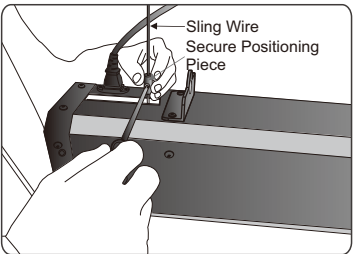

Figure 30
- a. Casing upper limitation uses the touching switch, consists of secure positioning piece system. (Refer to description).You just need to loose the screw on the position piece and then fasten again after moving it to the desired position (figure 30).